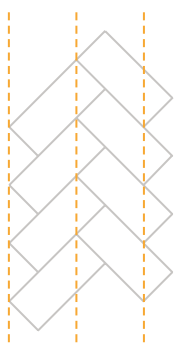

Figure 5: Initial row with reference lines.
- 1** Be very careful in laying the initial row correctly and at a right angle, as this is crucial for the rest of the installation process and the end-result. Use reference lines to maintain the direction, as minor inconsistencies quickly spread to the rest of the floor. See Figure 5.